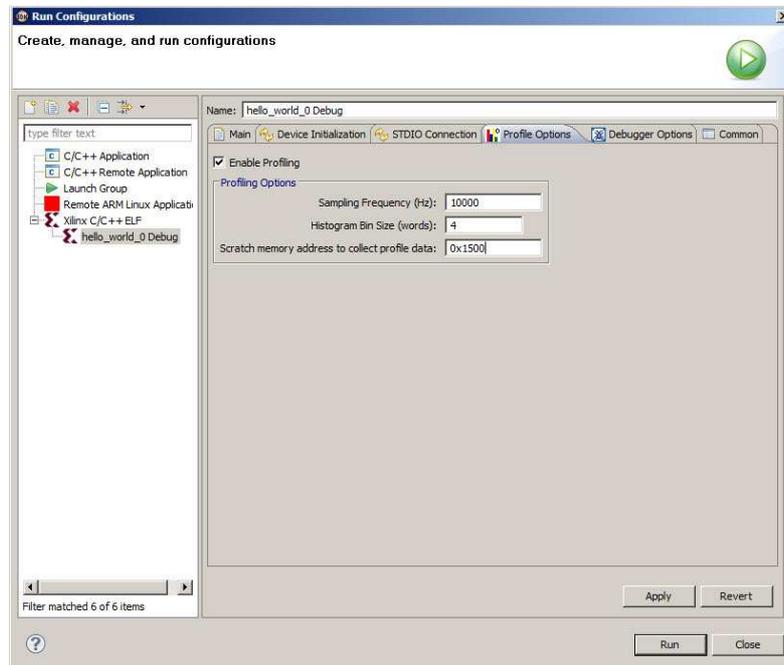

Figure 37. Create, Manage and Run Configurations (Step 17)
**Step 17:** Click on “Profile Options” and a new view of the previous window will appear as seen in Figure 37. Make sure you enable Profiling and change the scratch memory address that collects profile data to 0x1500 (or some value that does not overwrite your code, heap and stack!!)